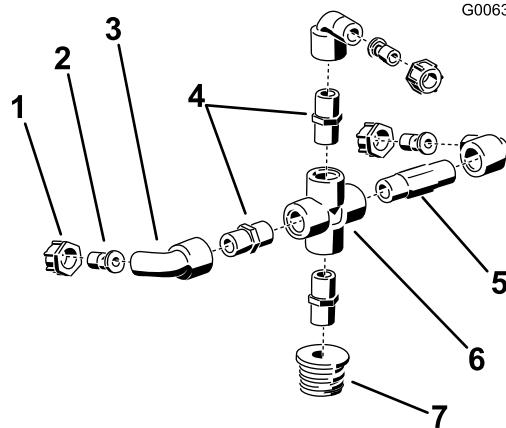
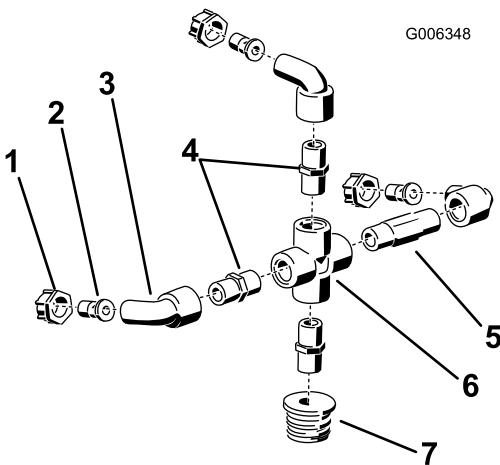

Figure 1
Figure 2
1. Locate the loose parts shown in Figure 1 and Figure 2. Assemble the parts as shown for both nozzles. Finger tighten to allow for further adjustment.